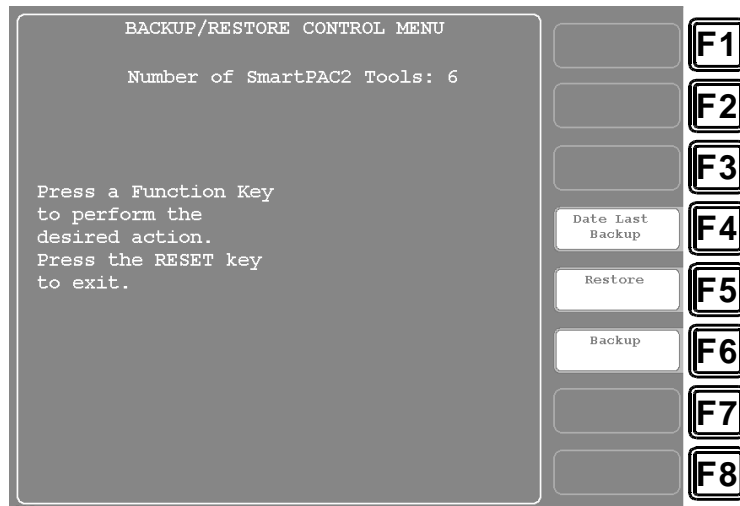
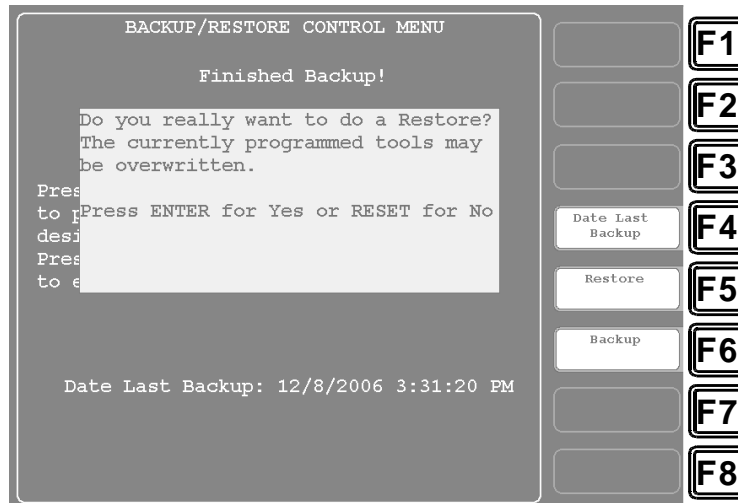

Figure 3. Backup/Restore Control Menu Showing Number of SmartPAC 2 Tools
Figure 4. Backup/Restore Control Menu with Restore Confirmation Window Displayed
appearing briefly at the top of the screen, followed by a message displaying the number of tools that have been programmed on that SmartPAC 2 (see Figure 3).
1. With the USB disk onto which tools have been backed up inserted in the USB connector (see Figure 1) and the Backup/Restore Control Menu (see Figure 3) displayed, press the *F5 (Restore)* function key. A window opens, asking you to confirm that you really want to restore tools to the SmartPAC 2, as shown in Figure 4.